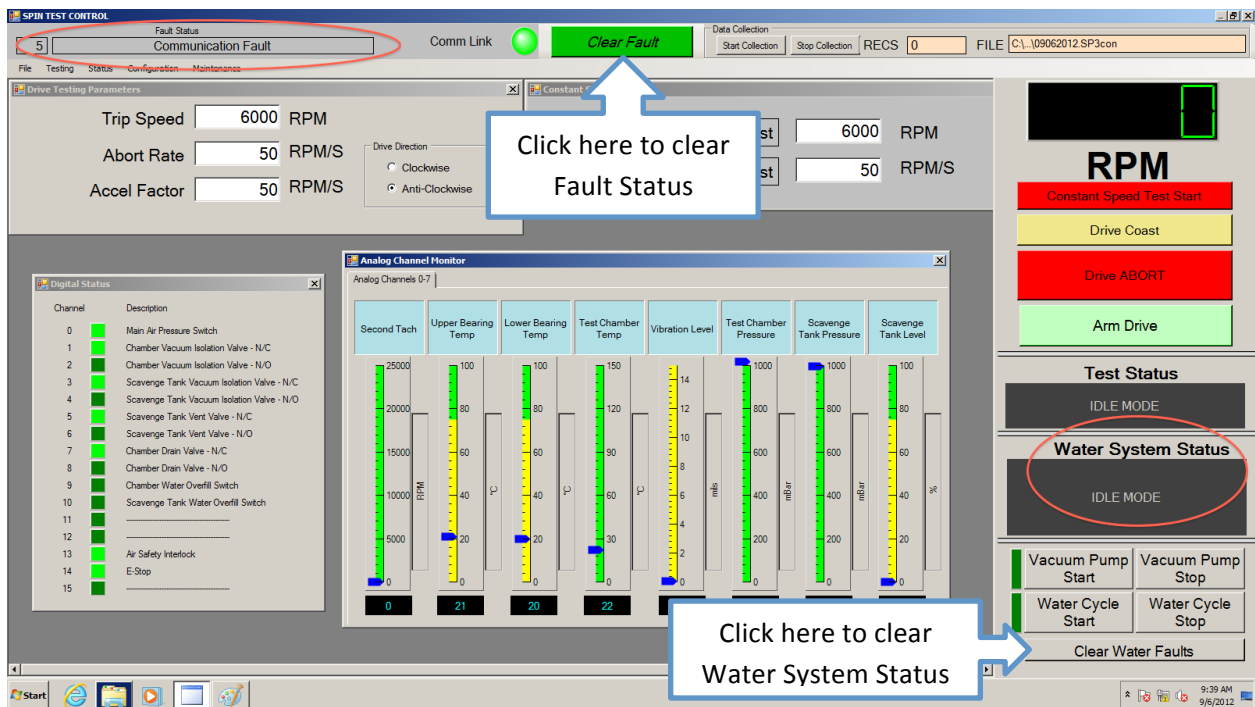

Figure 13: Clear Fault Status
3. Check "Water System Status" if a fault is displayed then "Clear Water Faults." See figure 13.
4. Click on **Vacuum Pump Start** located at the bottom right of the screen on the **Test Status Panel**. See figure 13.